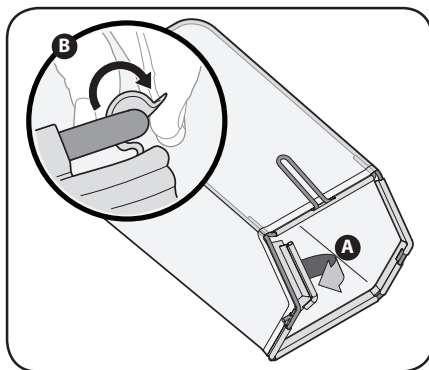

Figure 2-7
1. Follow steps below to assemble the grass catcher (if needed). Make certain bag is turned right side out before assembling (warning label will be on the outside). See Figure 2-7.